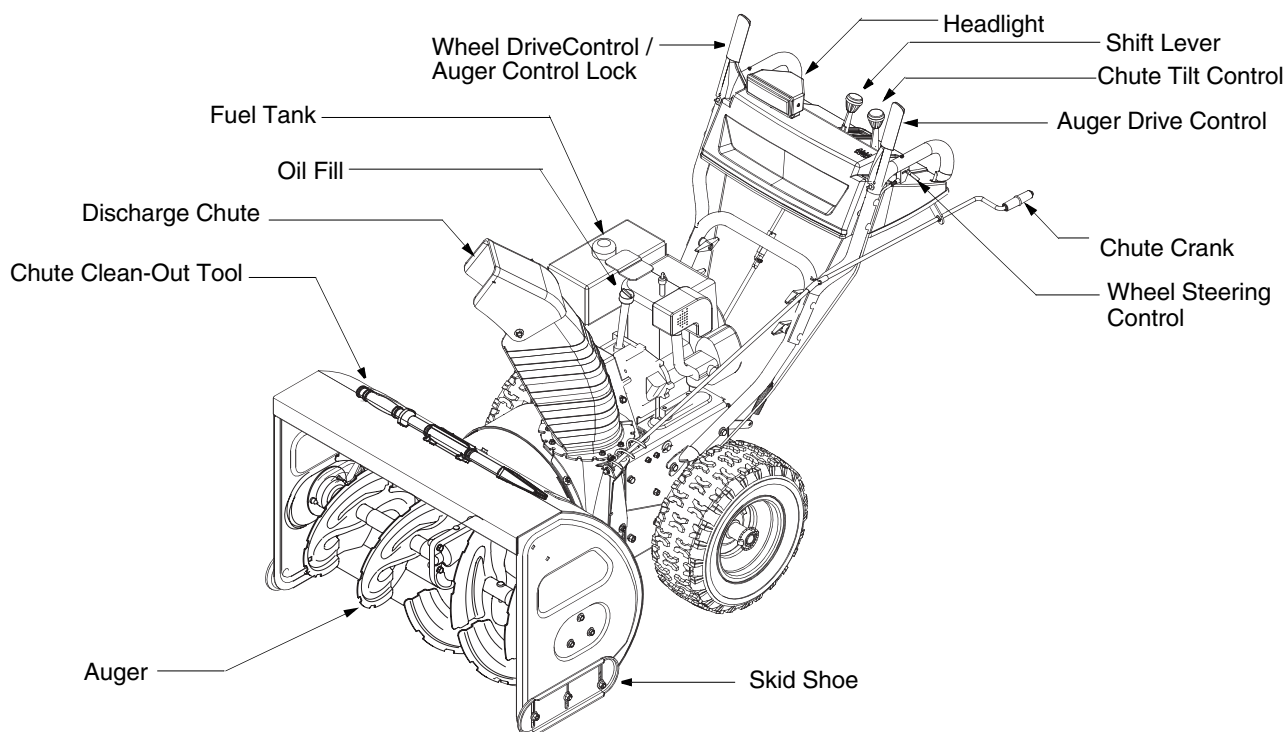

Figure 11
- Move the shift lever into sixth (6) position. See Figure 11.